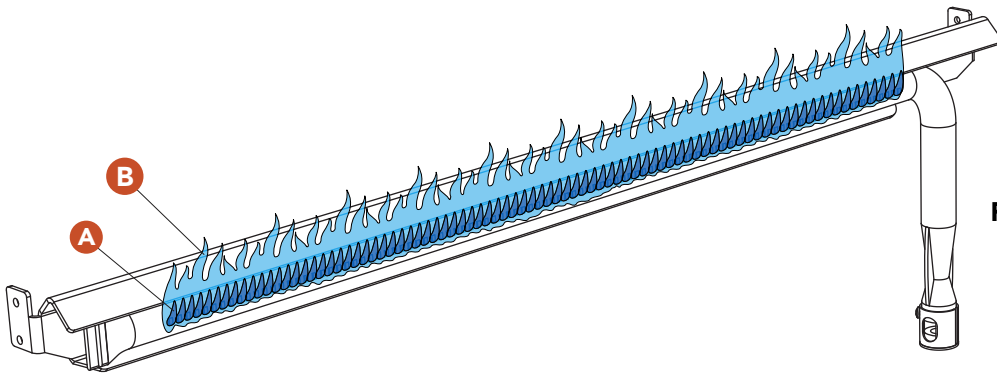

FIGURE 19
- On HIGH, the inner cone (Figure 19:A) should be approximately 3/8 inch long.
- On HIGH, the outer cone (Figure 19:B) should be nearly reaching the bottom of the fire grates (Figure 9:K)